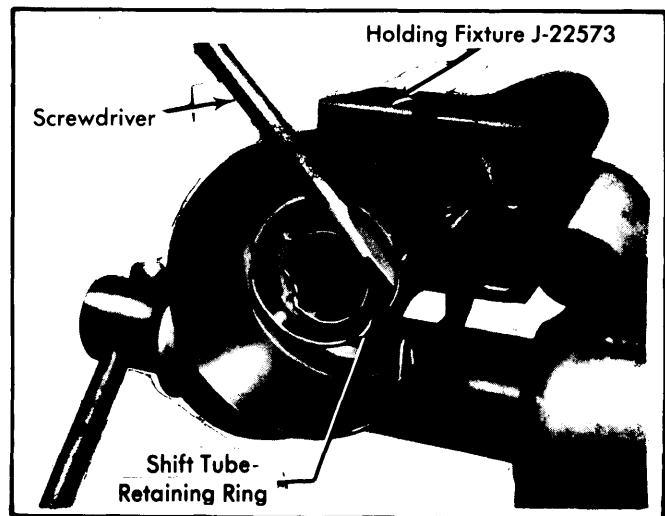

Fig. 10 Removing Shift Tube Retaining Ring
6) Remove four bearing housing support screws and remove support. If shift tube index plate (column shift only) must be removed, remove two retaining screws and remove plate. Remove shift tube retaining ring with screwdriver. Remove thrust washer. Remove neutral start switch or back-up lamp switch retaining screws and remove switch. See Fig. 10.